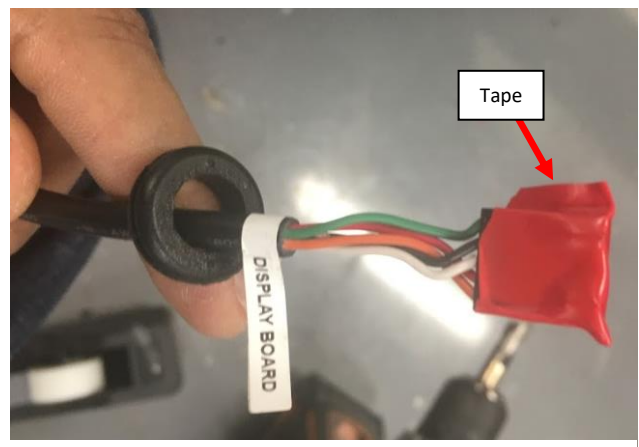

Figure 104b: UI Harness connector covered with tape.
- ii. Apply Tape over the Connector on the UI Harness end so it is covered and prevents debris/foam entering the sockets. **See Figure 104b.**